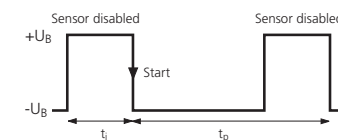

Fig.3: External synchronization signal
- Apply a square-wave signal to the sync-input with pulse width t_i and repetition rate t_p (Fig.3 and technical data).